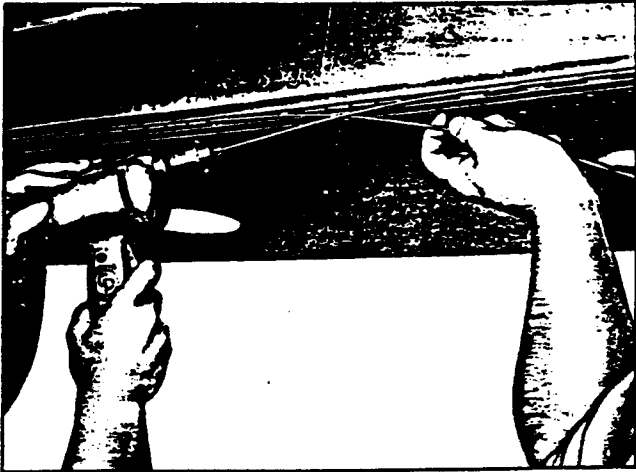

Figure 8. Hinge Wire Installation
(b) The hinge wire in the lower door is in two pieces, meeting at approximately the center of the door (see figure 8). Remove both hinge wires with the use of a drill motor.
(2) INSTALLATION.- Reverse the removal procedure. See figures 8 and 9.